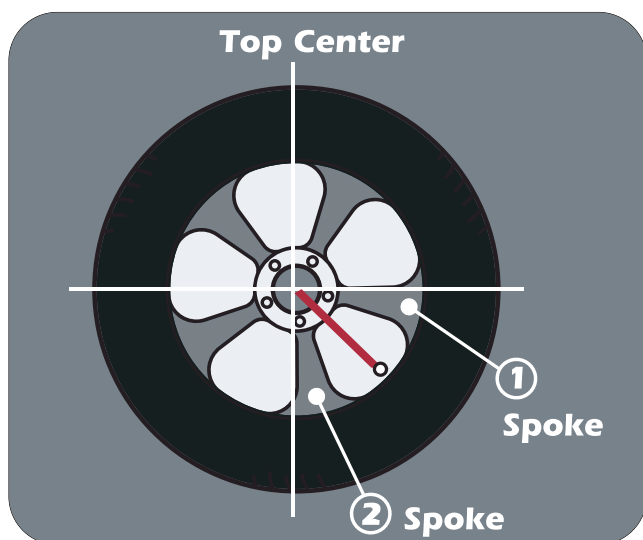

Figure 15 - Spoke 1 And Spoke 2 Locations On Either Side Of Original Outboard Weight Location
**Important:** Be sure that the Spoke 1 and Spoke 2 locations are on either side of the original outboard corrective weight location, as shown in figure 15.